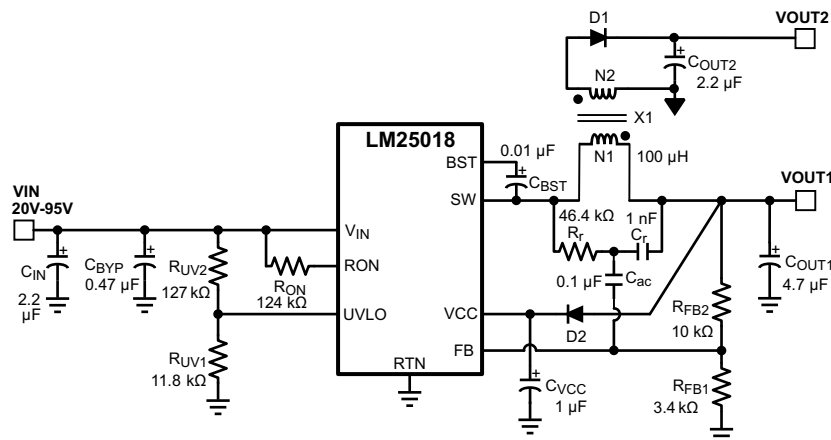

Figure 8-5. Typical Isolated Application Schematic
An isolated supply using LM25018 is shown in Figure 8-5. Inductor (L) in a typical buck circuit is replaced with a coupled inductor (X1). A diode (D1) is used to rectify the voltage on a secondary output. The nominal voltage at the secondary output (V_{OUT2}) is given by Equation 20.